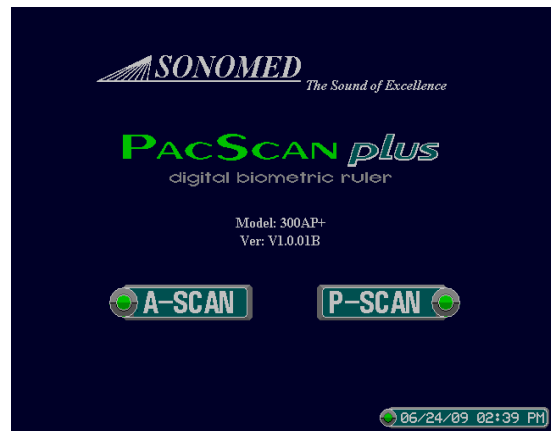
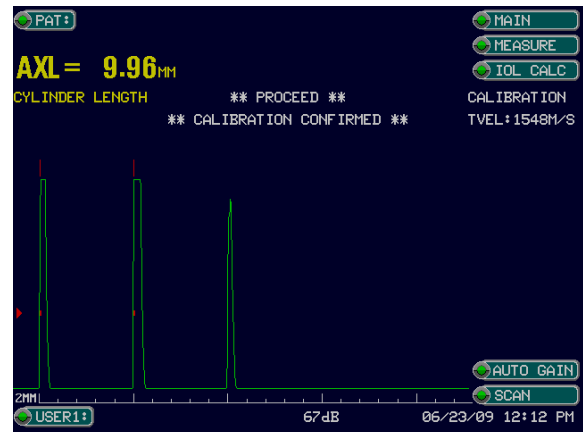

Figure 2-1 Main Screen Display
Figure 2-2
2. Verify that the green LED on the face of the system illuminates and that the Main Screen appears on the display (see Figure 2-1).
1. From the Main Screen, select the [**A-SCAN**] button at the bottom of the screen (see Figure 2-1). Verify that the CALIBRATION screen appears on the display (see Figure 2-2).